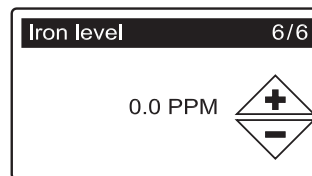

FIG. 13
11. **IRON LEVEL** Press the UP (▲) or DOWN (▼) buttons to set the value for iron in your water (See Figure 13).